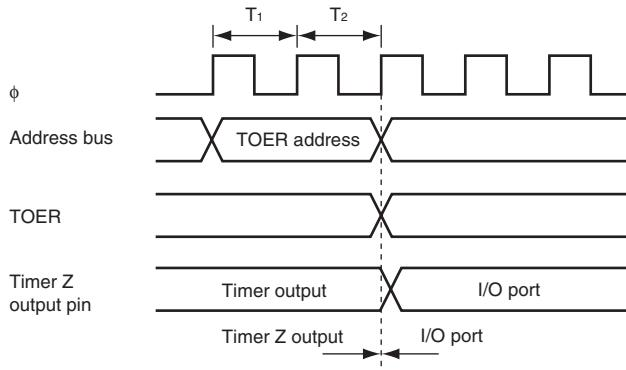

Figure 12.44 Example of Output Disable Timing of Timer Z by Writing to TOER
1. Output Disable/Enable Timing of Timer Z by TOER: Setting the master enable bit in TOER to 1 disables the output of timer Z. By setting the PCR and PDR of the corresponding I/O port beforehand, any value can be output. Figure 12.44 shows the timing to enable or disable the output of timer Z by TOER.